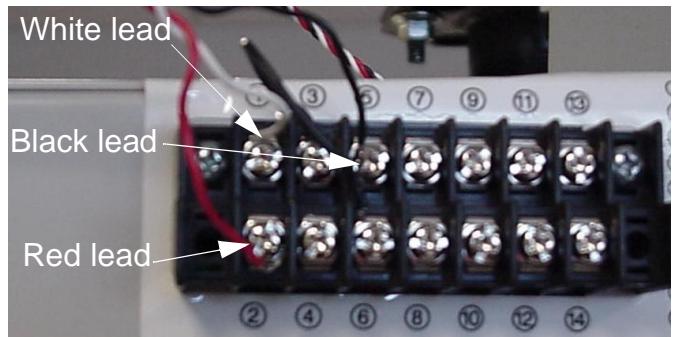

Figure 23. Contacts Connection
2. Connect the white wire of the RC-10 controller unit to terminal #1 (see Figure 23).